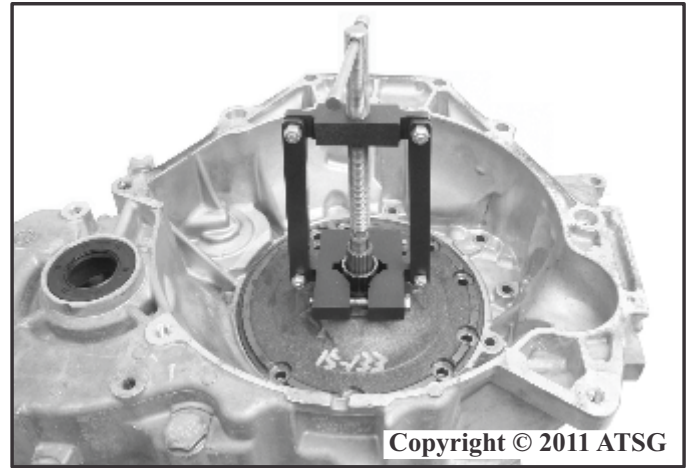

Figure 245
84. Install SST J 45053 or similar pump removal/installing tool onto the pump assembly and carefully install the fluid pump into the transmission as shown in Figure 245. Use care when installing the fluid pump assembly so that the second clutch (B2) sprag assembly does not become dislodged during the installation of the fluid pump.
85. Lightly press the fluid pump into the transmission case so that the pump is fully seated in place as shown in Figure 245.